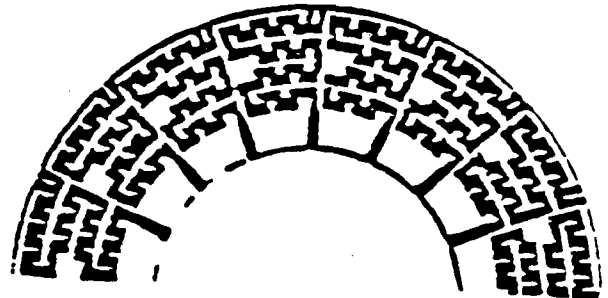
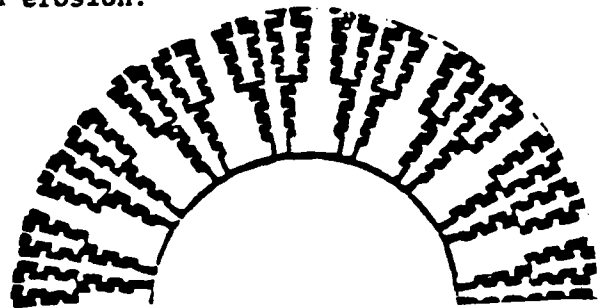

FIGURE 1-4. LIQUID DISK PASSAGES
FIGURE 1-5 GAS OR STEAM DISK PASSAGES
b. For liquid service, the cross section of the flow passage is constant (see figure 1-4). For gas or steam service, because of changes in specific volume, the cross section of the passage is expanded incrementally to maintain constant velocity through the passage (see figure 1-5).